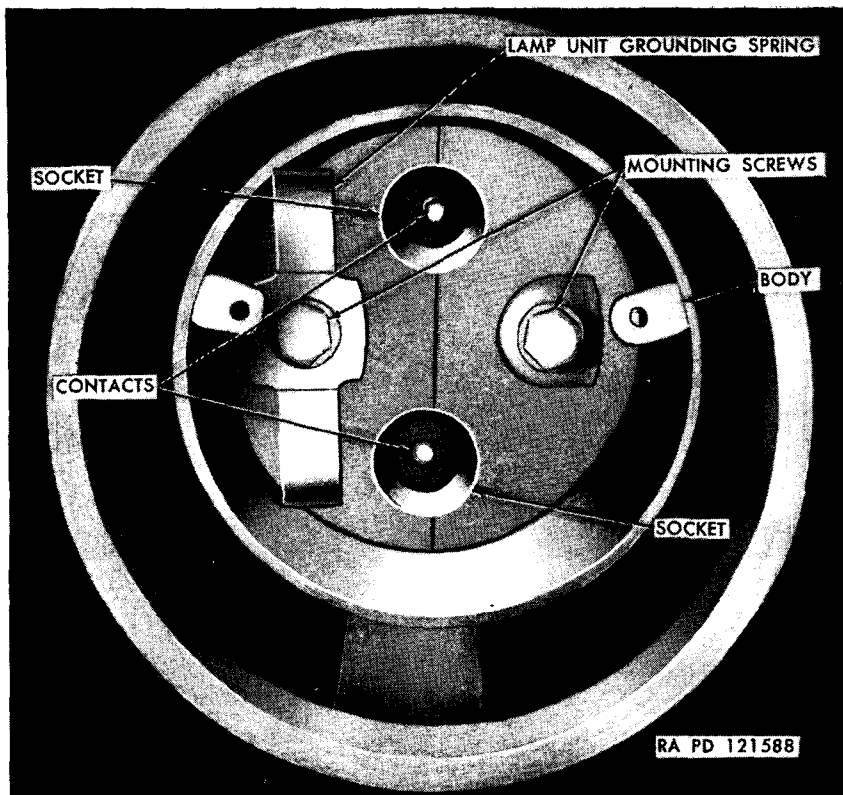

Figure 217. Right taillight body—installed view.
a. **REMOVAL** (figs. 217 and 218). Turn light switch (fig. 18) to "OFF" position. Remove taillight guards by removing four cap screws attaching each guard to hull brackets. Remove two cap screws securing each taillight assembly to side of hull. Disconnect cables at bell-type connectors (one cable at right taillight assembly and two cables at left taillight assembly).
b. **INSTALLATION** (figs. 217 and 218). Connect cables at bell-type connectors (one-cable connector at right taillight assembly and two-cable connector at left taillight assembly). Position each taillight assembly to hull and secure with two cap screws and lock washers.